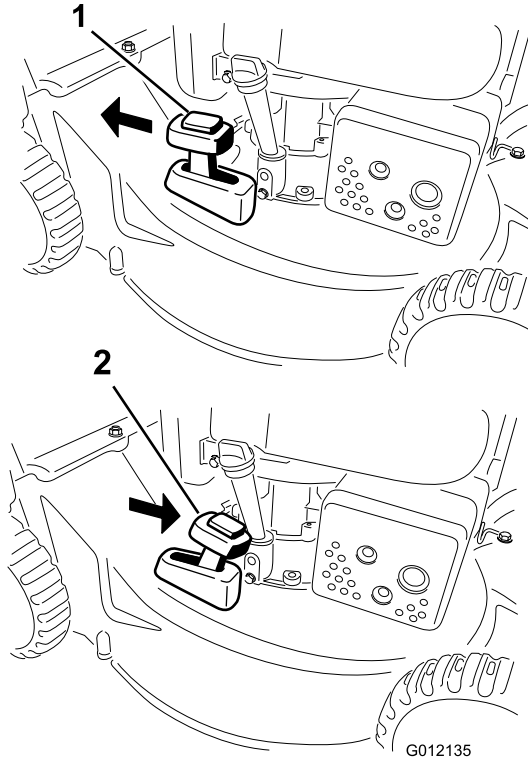

Figure 17
To recycle the clippings, move the bag-on-demand lever to the RECYCLING position (Figure 17).
2. Install the grass bag; refer to Installing the Grass Bag \(page 12\) and move the bag-on-demand lever to the BAGGING position as shown in Figure 17.
Note: If the grass bag is on the machine, remove it before rear-discharging the clippings; refer to Removing the Grass Bag \(page 13\). The bag-on-demand lever should be in the BAGGING position as shown in Figure 17.